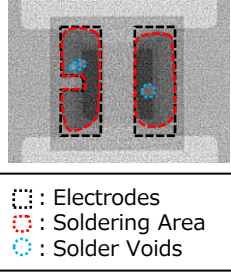
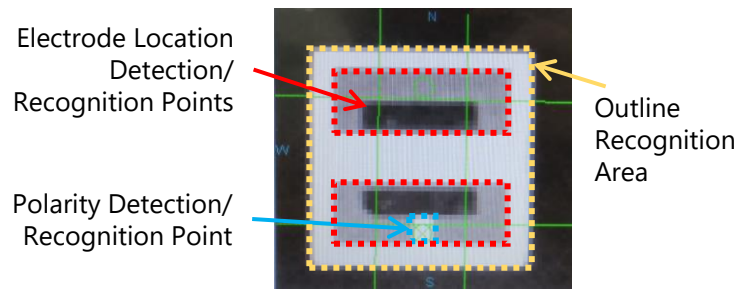

Figure 5. Example X-ray image
Figure 10. Recommended reference points to detect, recognize, or locate the polarity/electrodes
- If the imaging device has trouble detecting/recognizing the electrodes due to the uniqueness of the electrode pattern, adjust it to detect/recognize the outer portions of the electrodes (i.e. the areas circled in red in Figure 10 to the left).
- If an automatic polarity detector is used for the LEDs, set up the imaging device to detect the empty space between the anode and cathode electrodes (i.e. Polarity Detection/Recognition Point in Figure 10 to the left). In the example in Figure 5, the equipment measures the brightness of the empty space against the threshold to locate the electrodes and/or determine the polarity.
- If it is still difficult to recognize the electrodes, it is possible to instead use the outline of the product (i.e. the area noted in yellow Figure 10 to the left) as the detection/recognition area. The issue with using this option is that it may not be possible to determine the polarity.